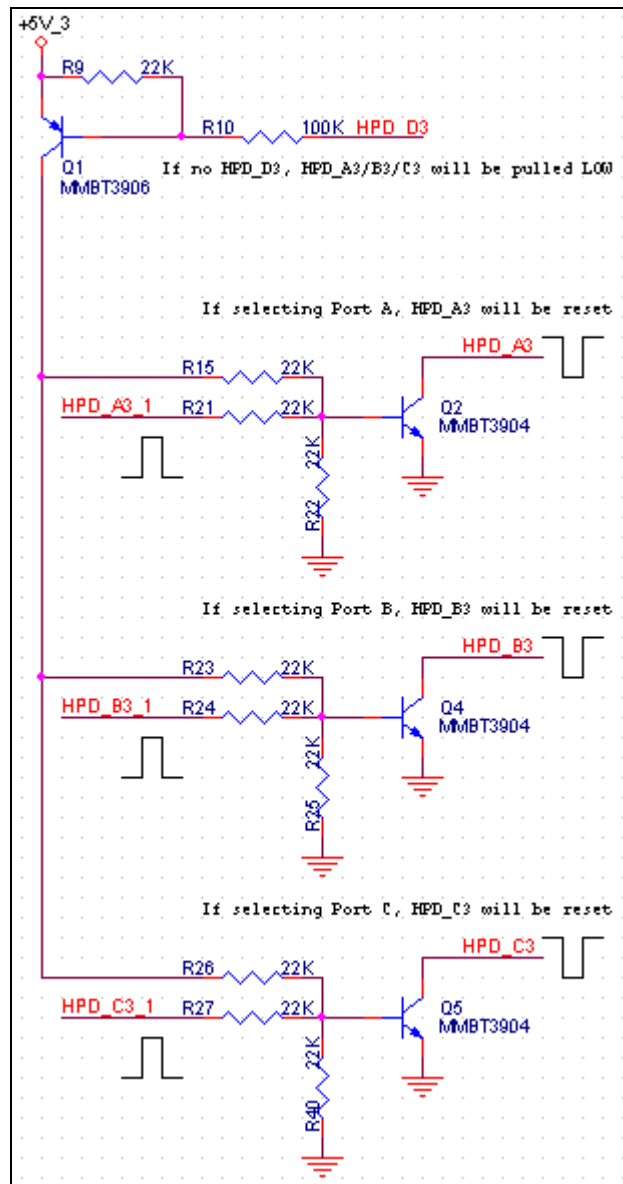

Figure 9: Source HPD Reset of PI3HDMI231-A Demo Board Rev.B
This pulse will be transferred from HPD_SINK pin of PI3HDMI231-A/B to one of its HPD pins, i.e., HPD1, 2 or 3, according to the port selection. It will then initiate a reset of HPD at the corresponding input connector, HPD_A3, HPD_B3 or HPD_C3, through NPN transistors, Q2, Q4 or Q5, respectively. Please refer to Figure 9. Resetting HPD is to ensure that HDCP Transmitter Link State is reset back to reset state H0. For details, please refer to Application Note AN202.
- c. If Sink receiver is not connected to HDMI connector J2, HPD_D3 pin will become low. This will turn on PNP transistor Q1 and then three NPN transistors Q2, Q4 and Q5 in Figure 9. As a result, all the HPD signals at source side are pulled low and reset to state H0.